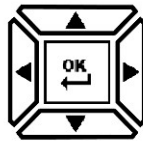

Fig. 4-3 Navigation Pad
There are five (5) buttons arranged in a square that make up the Navigation pad, as shown in Fig. 4-3.